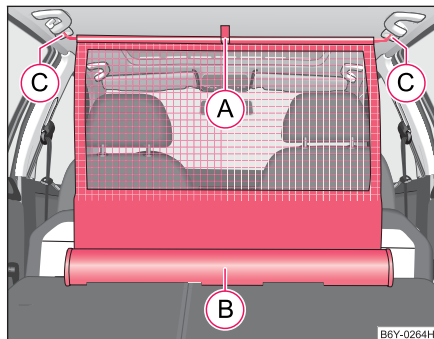

Fig. 59 Unrolling net partition
- Pull the net partition net at the plate (A) out of the housing (B) ⇒ fig. 59.
- Insert the cross rod into the mount (C) first on the one side and push the cross rod forward.
- In the same way, fix the cross rod to the other side of the vehicle, mount (C).